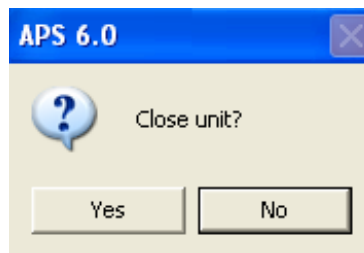

Figure 85: APS confirming De-Allocate Unit
2. De-allocate (close) unit: To de-allocate an allocated unit, press the button in the unit column that is on the row of the unit to be de-allocated. APS will verify that the user intends to de-allocate the unit and then de-allocate it. The Close Unit box is shown in Figure 85: APS confirming De-Allocate Unit.